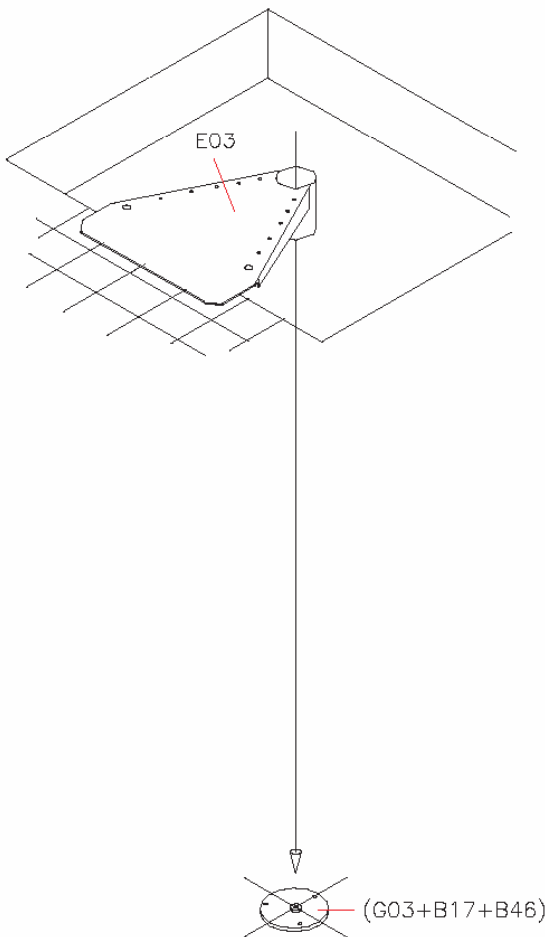

FIG. 5
10. Insert the base plate cover (D05) (fig. 5).
11. Insert the spacers (D14+D03+D02) (fig. 5).
12. Insert the first tread (L02) into the pole (G02). Then continue with the assembly, by adding alternatively one spacer (D04+D03+D02) and one tread (L02). At this stage we suggest to position the treads alternately one to the right and one to the left, in order to distribute the weight in a balanced way (fig. 5).
13. When you reach the end of the pole (G02), screw the part B47 on it, then add the second pole (G02) and continue with the stair assembly (fig. 5)